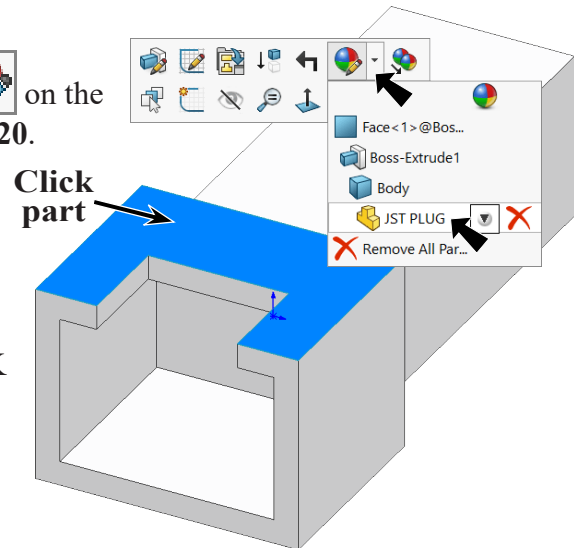

Fig. 20
Step 1. Click the part, click **Appearances Callout**  on the context toolbar and click **JST PLUG** , Fig. 20.